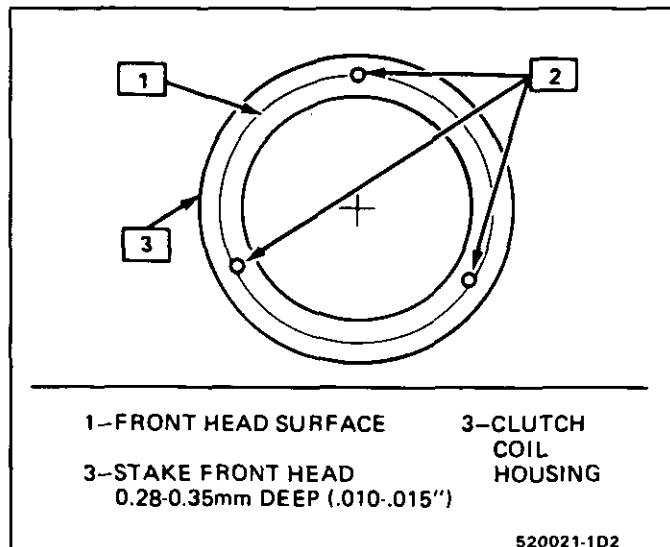

Fig. 21 Details of Stakes In Front Head for Clutch Coil
- Stake size should be only one half the area of the punch tip and only approximately 0.28-0.35mm (.010-.015") deep (Fig. 21).